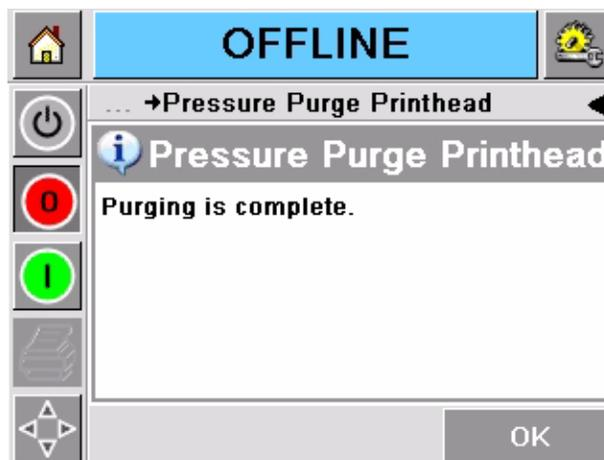

Figure 4-15: Purging Complete
- 6 The following page appears after the purging is complete (Figure 4-15). Select OK.